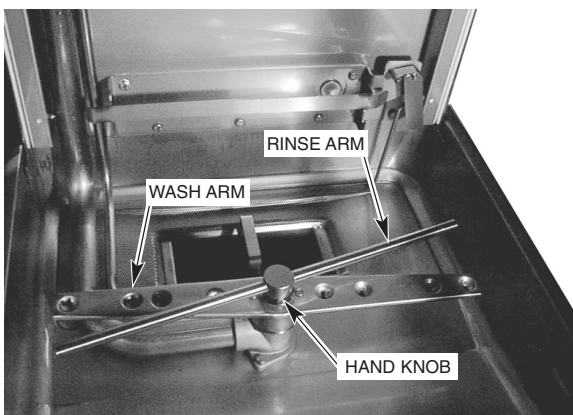

Fig. 28
10. Remove and check wash arms and rinse nozzles (Figs. 28, 29) to make sure they are free of any lime and solids. Refer to Maintenance, page 21.
Upper and lower wash and rinse arms (Figs. 28, 29) should turn freely and continue turning for a few seconds after being whirled by hand. To check, **DISCONNECT ELECTRICAL POWER SUPPLY (BOTH DISHWASHER AND BOOSTER IF APPLICABLE)**, rotate arms and remove any obstructions causing improper operation.
To remove the lower wash arm, unscrew the hand knob and lift the rinse arm off (Fig. 28). The wash arm can be lifted off once the rinse arm is removed.